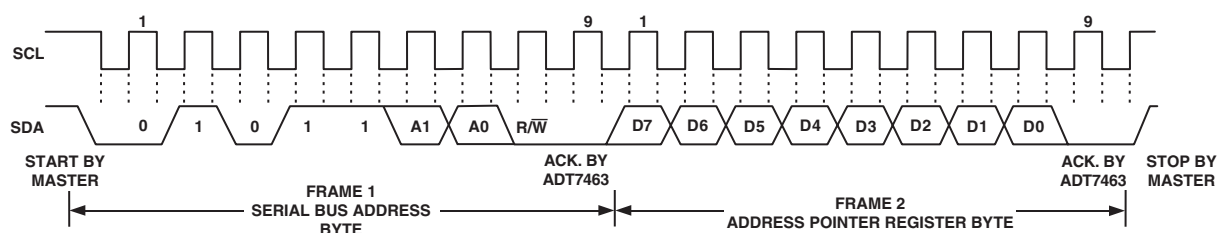

Figure 8. Writing to the Address Pointer Register Only
1. If the ADT7463's address pointer register value is unknown or not the desired value, it is first necessary to set it to the correct value before data can be read from the desired data register. This is done by performing a write to the ADT7463 as before, but only the data byte containing the register address is sent as data is not to be written to the register. This is shown in Figure 8.
2. If the address pointer register is known to be already at the desired address, data can be read from the corresponding data register without first writing to the address pointer register, so Figure 8 can be omitted.